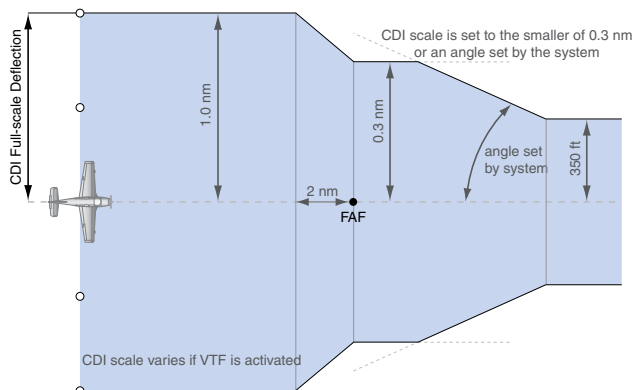

Figure 2-26 Typical LNAV, LNAV+V, and Visual Approach CDI Scaling
- During **approach**, the CDI scale decreases even further (Figures 2-26 and 2-27). This transition normally occurs within 2.0 nm of the final approach fix (FAF). The CDI changes to approach scaling automatically once the approach procedure is activated or if Vectors-To-Final (VTF) are selected.